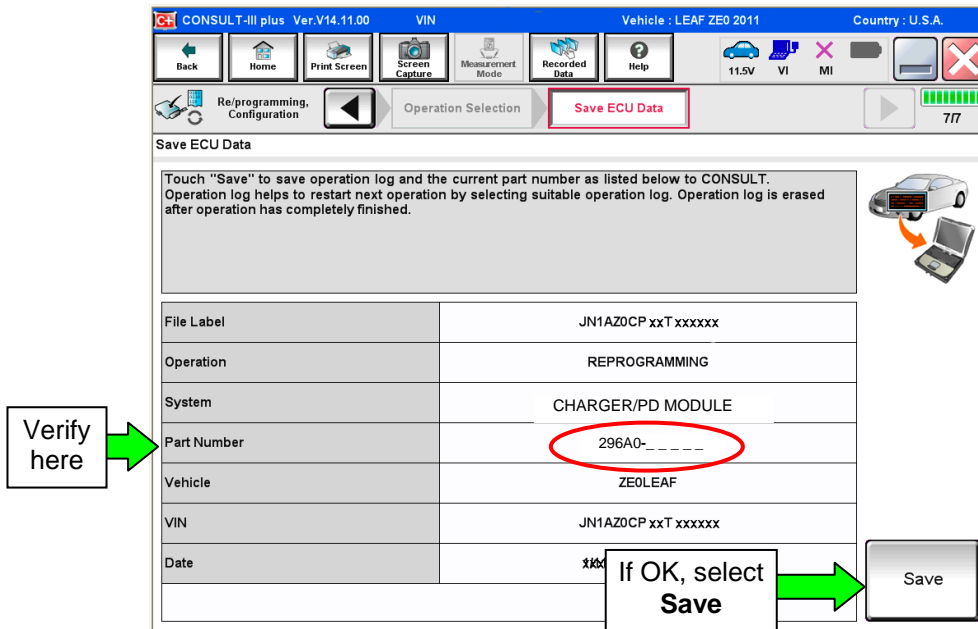

Figure 8
15. Write down the **Part Number** on the vehicle's repair order (see Figure 8) and confirm if it matches one of the part numbers in Table "A" below.